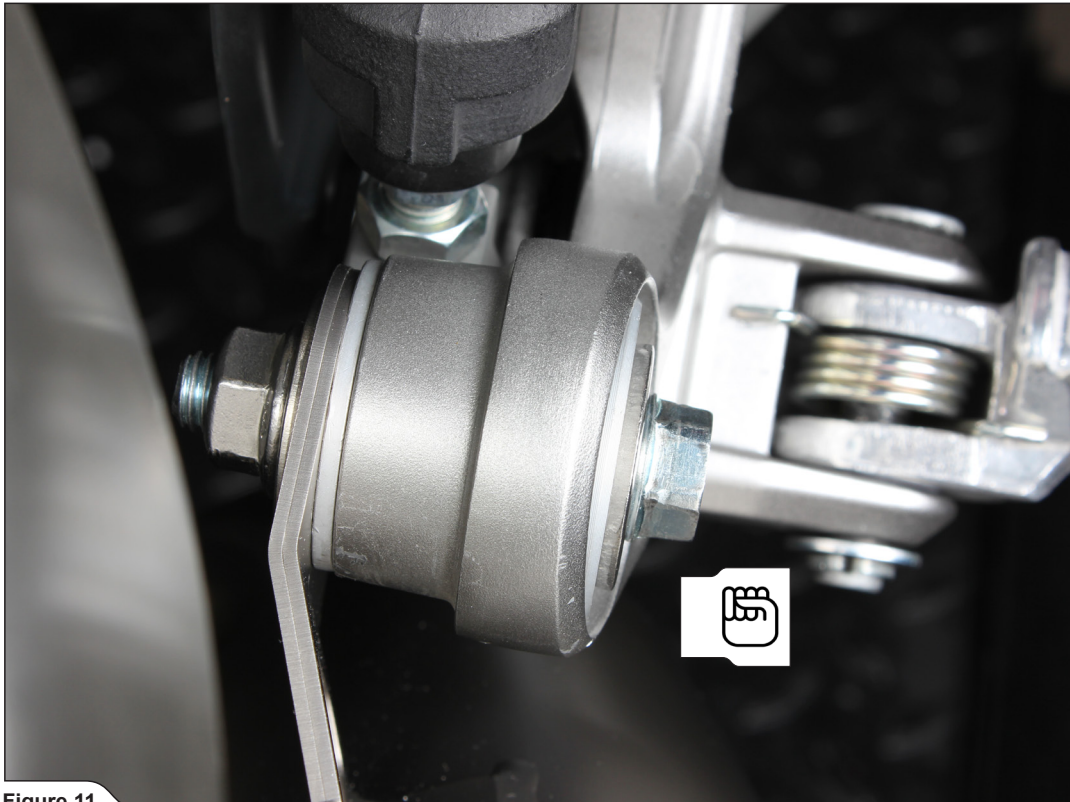

Figure 11
5. Hand tighten the muffler onto the stock bracket using bolt, washers, aluminium washer and nut from Akrapovič installation kit (Figure 11).